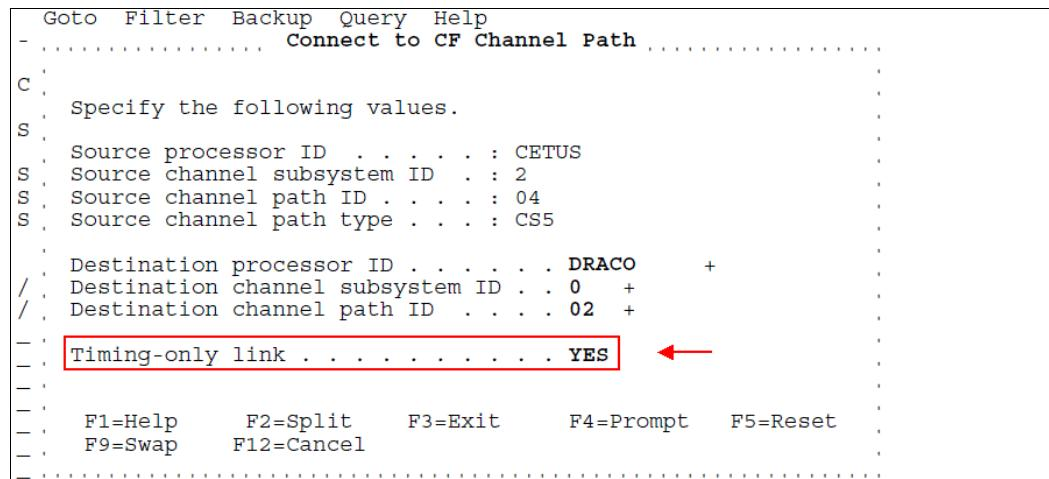

Figure 9-27 STP timing only link from z14 to z13 by using CS5
- On the CF links connection step (step 9 on page 218), after including the data related to the CPC DRACO side of the connection, type **YES** on the **Timing-only link** option of the Connect to CF Channel Path panel (Figure 9-27) and press **Enter**.